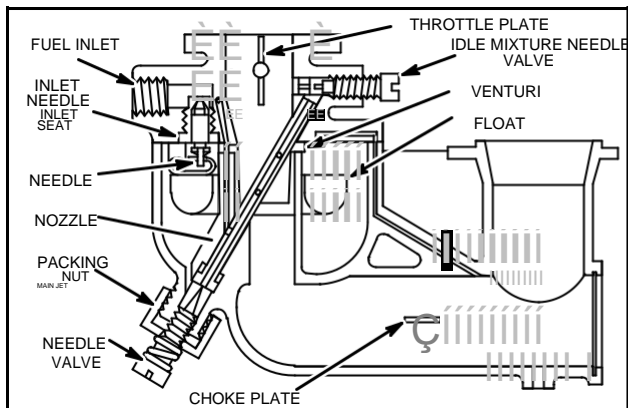

Fig. 280 - ASSEMBLE CARBURETOR
6. Screw in nozzle with Tool #19280, Carburetor Screwdriver, being careful that nozzle tip enters recess in upper body, Fig. 280. Tighten nozzle securely.